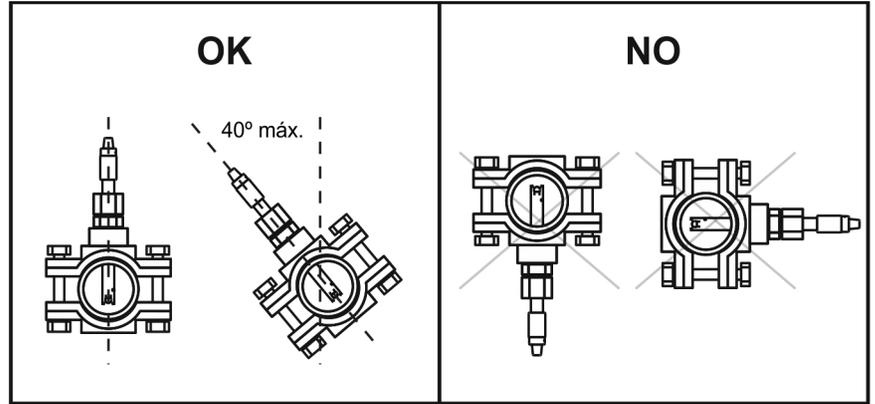

Fig 9.
- **Install always the electrodes pH/ORP preferably vertically or with a maximum inclination of 40°.** (Fig.9).